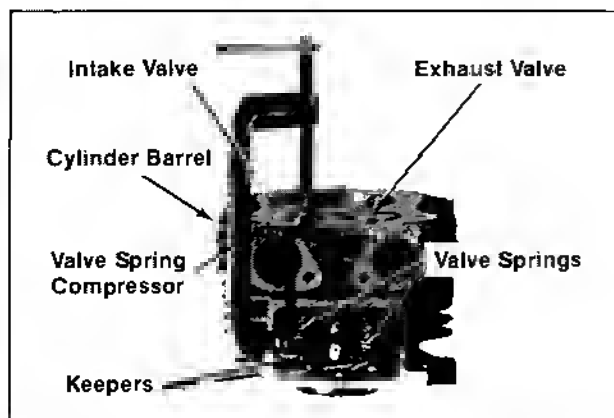

Figure 11-33. Installing Valves. Side #2 Shown.
3. Compress the springs using a valve spring compressor and install keepers. Refer to Figure 11-33.